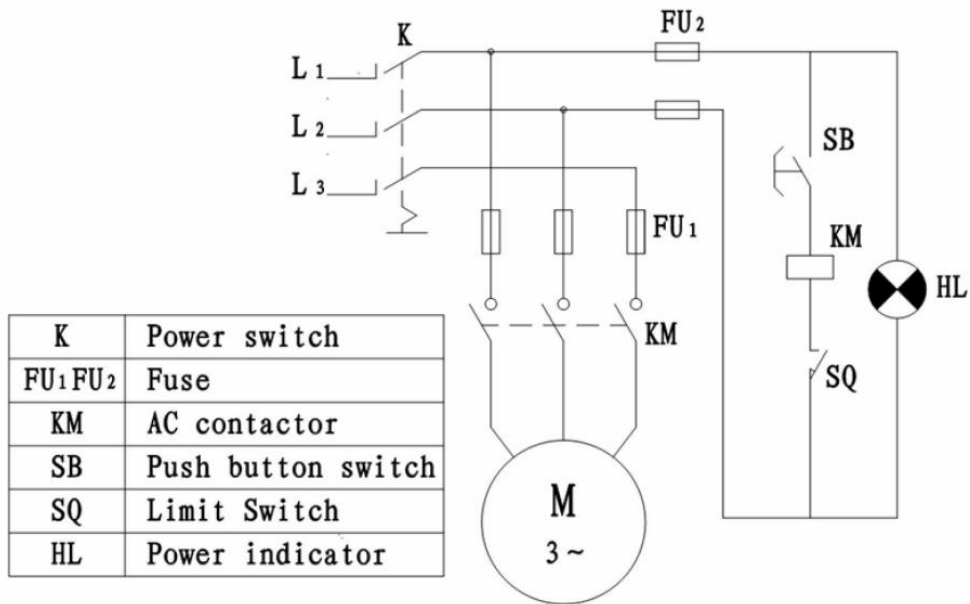

Figure 6 Schematic diagram of electrical system
t. 6.9 .Connection circuit: connect the equipment circuit well according to figure 6 in